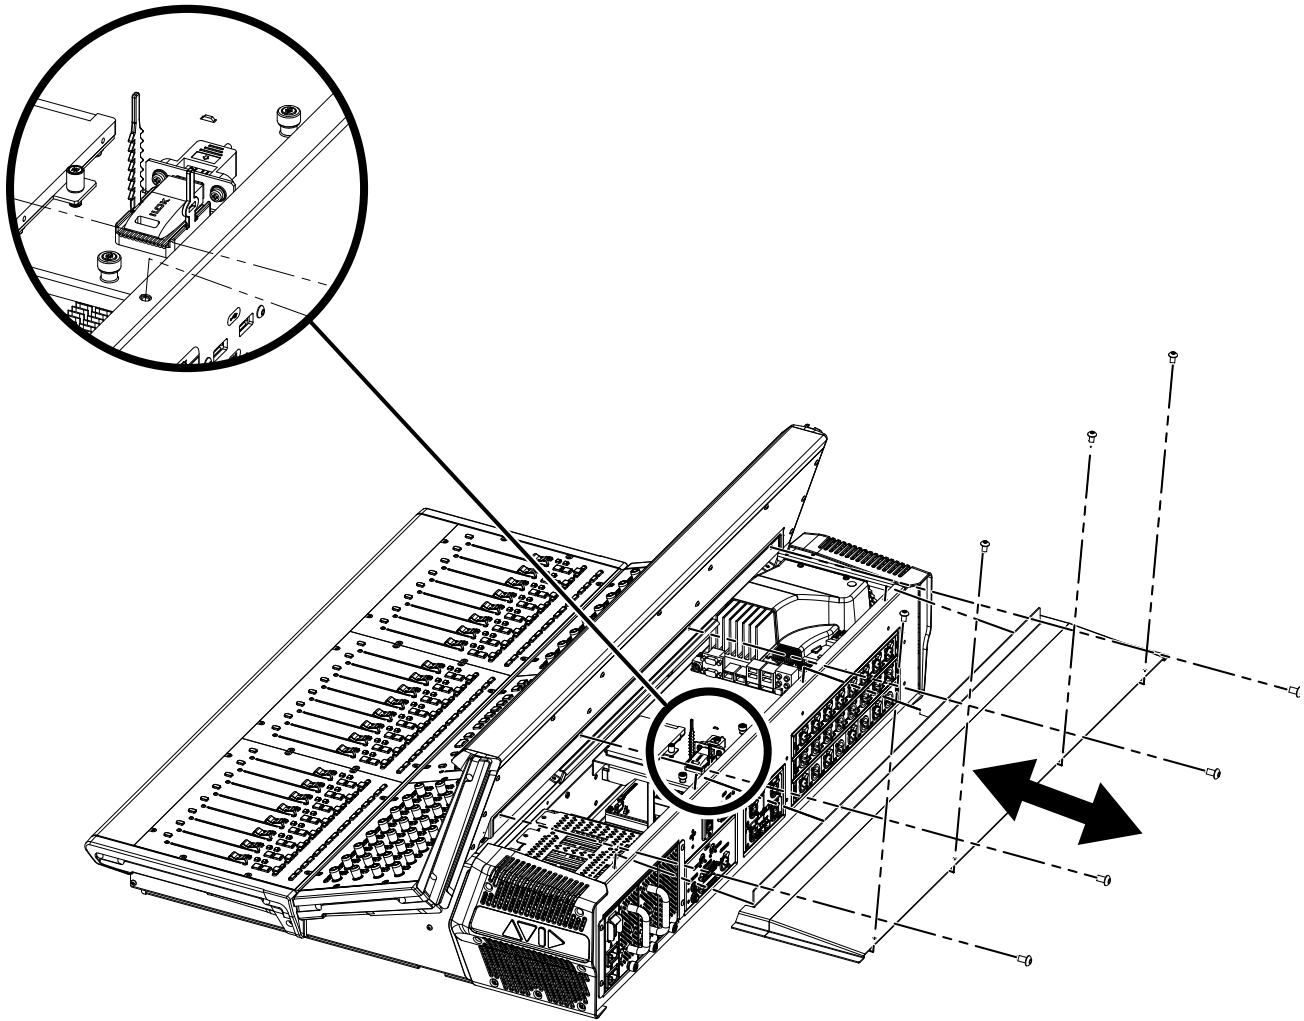

Figure 2. S6L control surface secure USB port
- 2 Using a 2.5 mm hex wrench, remove the 8 screws that secure the back cover of the S6L control surface, as indicated in Figure 2, and set the screws aside.